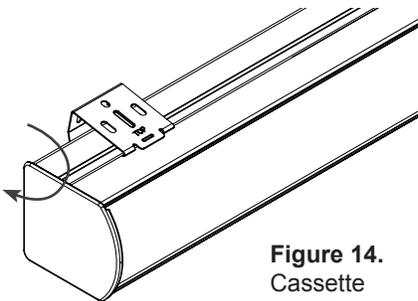

Figure 14.
Step 12. Hook the channel that's on top of the cassette onto the wall bracket as shown in **Figure 14**. Then rotate the entire cassette until it snaps onto the lower hook on the bracket.